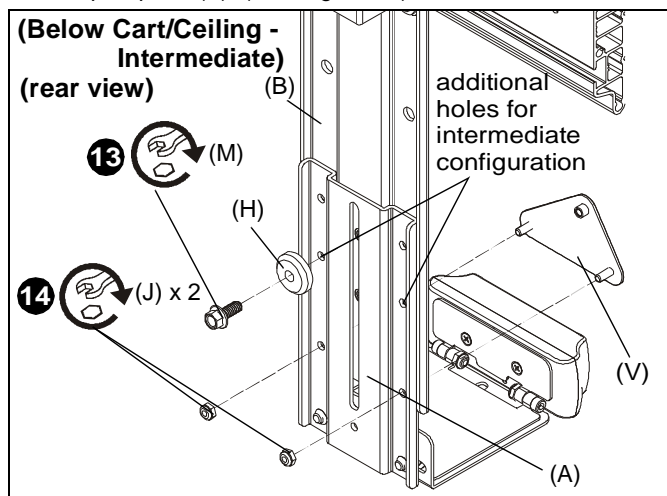

Figure 14
13. (For **Intermediate extension**) Use 1/4-20 x 5/8" hex head flange bolt (M) and center washer (H) to secure upright bracket (A) to main bracket (B). (See Figure 14)
14. (For **Intermediate extension**) Use two #10-24 lock nuts (J) to secure upright bracket (A) to main bracket (B) and adapter plate (V). (See Figure 14)